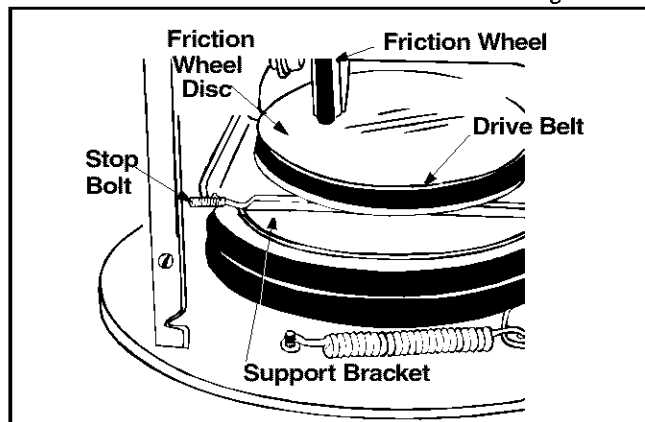

Figure 24
- Back out the stop bolt to allow the belts to slip between the bolt and auger pulley. See Figure 24.
- Back out the stop bolt until the support bracket rests on the auger pulley. See Figure 24.